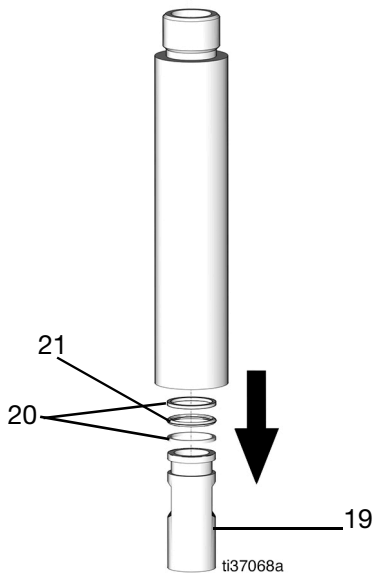

FIG. 41
24. Remove the piston bushing (19) (FIG. 41).
25. Remove the two (2) backup rings (20) and the o-ring (21) from the piston bushing (19) (FIG. 41).